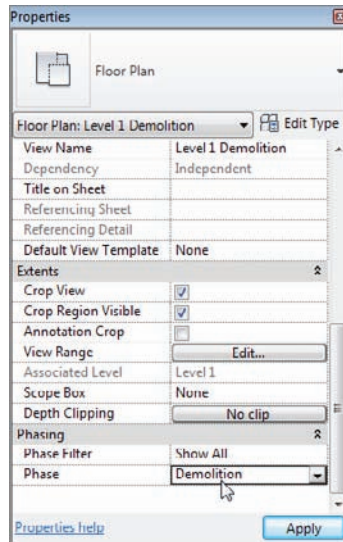

FIGURE 21.4 Changing the phase to Demolition
9. In the Properties dialog, scroll down to Phasing, and change Phase to Demolition, as shown in Figure 21.4.